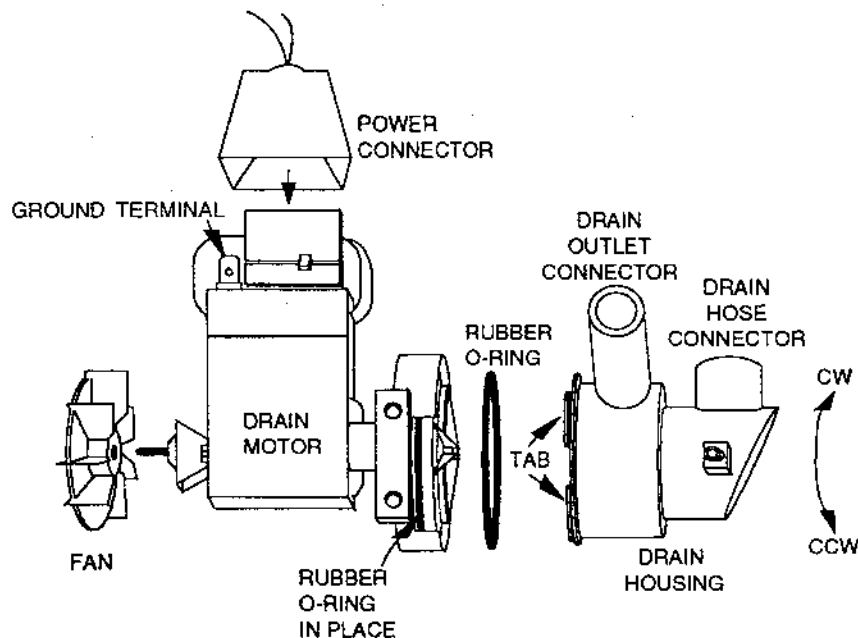

Fig. 34
Refer to Figure 34 for these procedures.
10. Position the drain housing as shown in Figure 34 and insert the tabs in the motor housing slots. Turn the drain housing counter clockwise as far as possible until the assembly locks together.